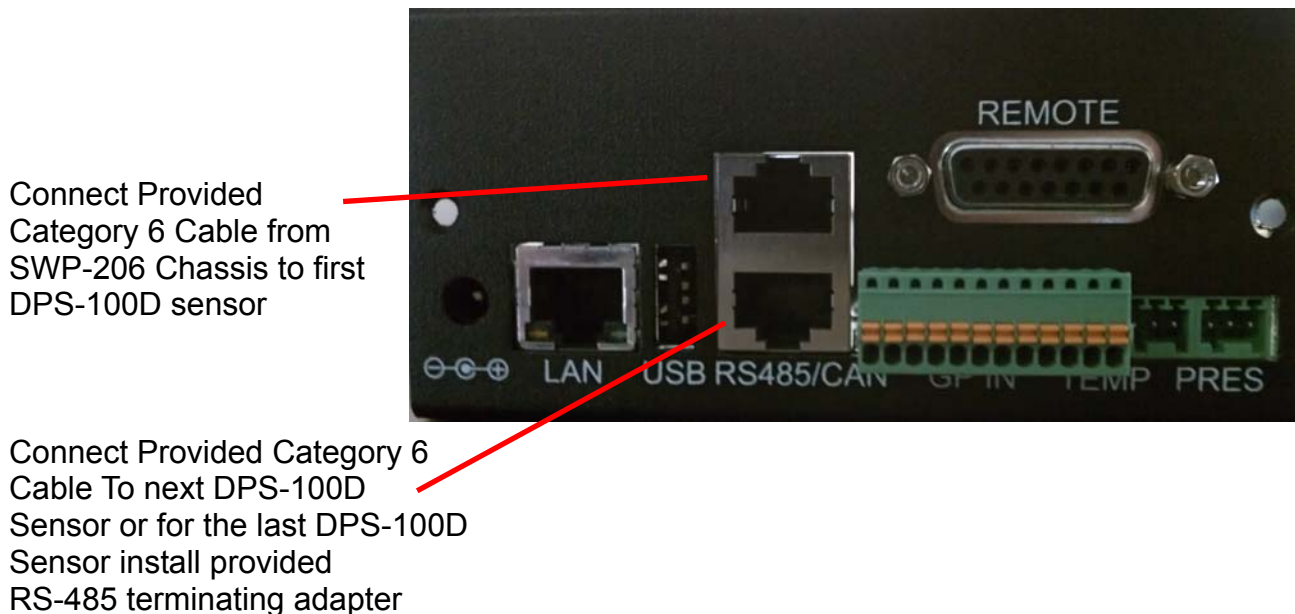

Fig. 1 Shows connection from SWP-206 Chassis and to succeeding DPS-100D Sensors
3. Using the supplied Ethernet cables attach one Ethernet cable to the RJ45 receptacle of the adapter installed in step 2 to the first sensor in the system. Using supplied cable daisy chain attach from one sensor to the next until all sensors supplied have been connected. Each DPS-100D sensor has been supplied with its own RS485 address 1 through 8. The data for each sensor will appear on the respective SWP-206 channel. Note that when the DPS-100D sensors are used in conjunction with the SWP-206 chassis they are powered through the RS-385 connection. Make sure all connections are complete and all DPS-100D sensors show an active display. Each DPS-100D sensor has an RS-485 address. This address is programmed at the factory but it is possible to change this address if desired. To perform this change consult the DPS-100D Technical Reference Manual supplied with the DPS-100D sensor. NOTE: No two DPS-100D sensors can have the same RS-485 address or the system will fail to operate properly. See Fig. 1 below